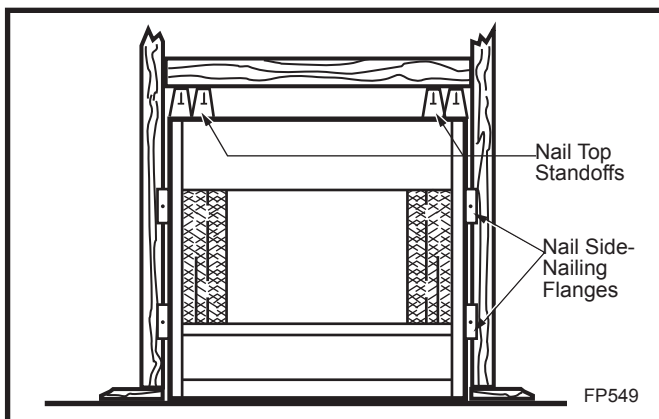

Fig. 4 Adjustable drywall strip (nailing flange).
2. Four (4) nailing flanges are supplied with the fire-place (found on the fireplace hearth). To level the box and secure it firmly in place, remove the nailing flanges from the hearth and install at the sides of the fireplace as shown in Figure 4.